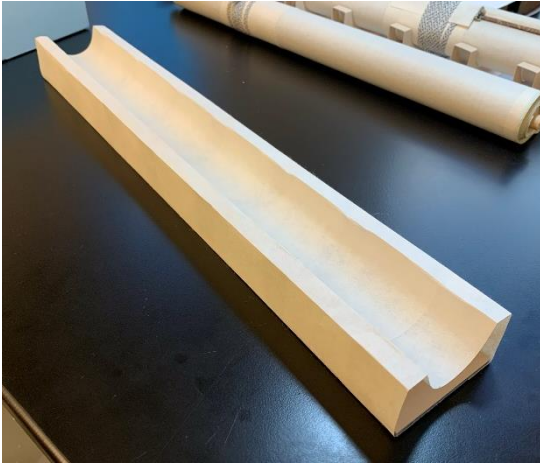

Fig. 6. A sheet of Okawara attached to the support.
7. Trimmed and attached a sheet of Okawara (machine-made) with PVA to cover the support (fig. 6).